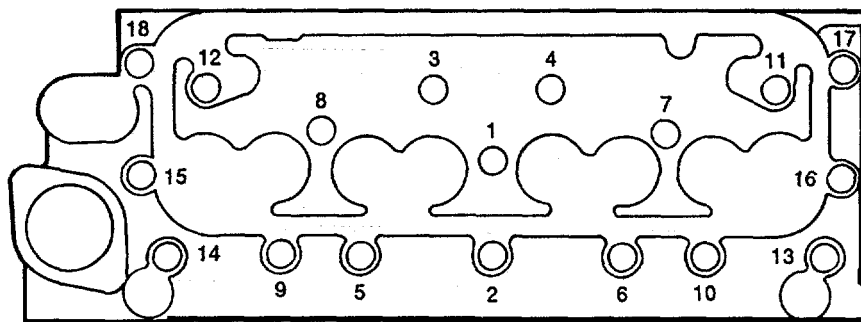

Figure 5-9. Torque Sequence.
- (3) Oil the cylinder head studs and nuts lightly and tighten them progressively according to sequence in Figure 5-9. Refer to paragraph 1-21 for torque values.